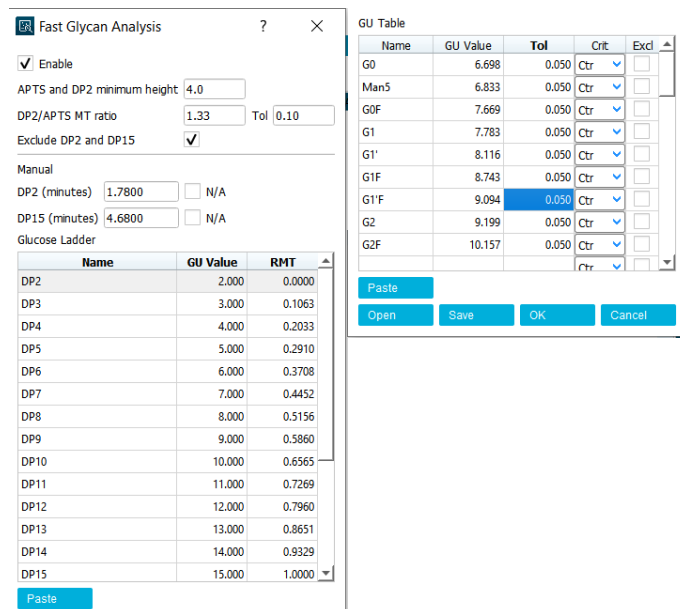

Figure 7. An example of the Fast Glycan Analysis module with an initial GU table and other settings.
Step 3: In the results table under the electropherogram, keep the peak number, name and GU value columns active and uncheck the remaining columns (Figure 5, insert C). Copy the results into a Microsoft Excel spreadsheet and convert the pasted text to columns, as shown in Figures 6A and 6B. Add an additional column called Tolerance. Add a value of 0.05 for tolerance for each row (Figure 6C). Names of the glycan standards can be added based on sample information. Table 1 shows the preliminary GU table corresponding to the electropherogram shown in Figure 5. After the preliminary GU table is built, the values are manually pasted into the GU Table module of the Fast Glycan Analysis module (Figure 7). Click the Analyze button to process the data. Apply the processing method and analyze all the loaded data.
Step 4: Check all data and adjust the Integration parameters if necessary to ensure the standard runs are processed properly. DP2 and DP15 should be identified and more than 90% of the selected data files should have all standard peaks identified and labeled. Using the overlay option, export the GU values of all the data files. Calculate the tolerance of the GU table by multiplying the standard deviation (SD) in the summary table by 5 for each identified glycan species. Update the preliminary GU table with the new tolerance value and update the GU value with the mean of the processed data (Table 1). Process all data again and confirm the robustness of the final processing method.
Step 5. Use the Save button on the bottom of the page to save the Fast Glycan Analysis method with the standards to the glycan library file for future use (Figure 7).